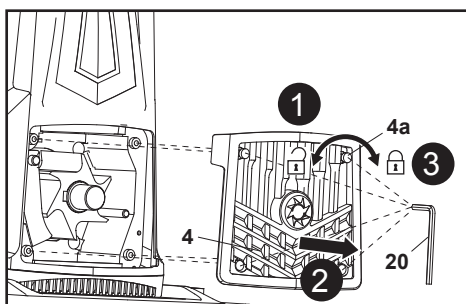
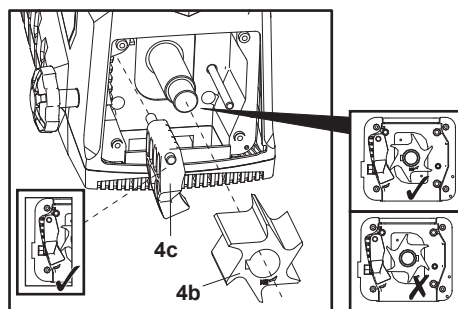

Fig. 13
Fig. 14
1. Press the OFF switch "O" (16) to switch the machine off. Wait until the cutting blades stop rotating completely.
2. Place the machine on an even surface and remove the collection box (12) in reverse order of assembly. Empty the collection box (12), if needed.
3. Fully loosen the four mounting bolts (4a) anticlockwise with the supplied hex key (20) and remove the blade compartment guard (4) (Fig. 13, steps 1, 2).
4. Carefully remove the jammed material from the discharge chute (6).
5. If necessary, remove the cutting blades (4b) and the cutting plate (4c) (Fig. 14).
6. Refit the cutting blades (4b), the cutting plate (4c) (if removed) and the blade compartment guard (4).
7. Tighten the four bolts (4a) clockwise to secure the blade compartment guard (4) in position with the supplied hex key (20) (Fig. 13, step 3).
8. Attach the collection box (12) onto the frame (8) properly.
9. Press the ON switch "I" (15) to switch the machine on.